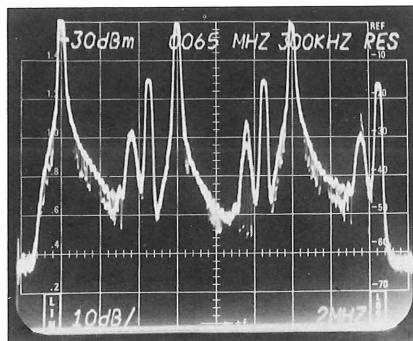

Figure 1-3. Amplitude measurements using the 7L14's digital storage.
2. The 7L14's digital storage capability makes carrier amplitude measurements easy. (See figure 1-3.) Position the PEAK/AVERAGE cursor at the bottom of the display so that the storage circuitry will capture the sync tip amplitude. Digital storage is especially valuable where slow speeds must be used.